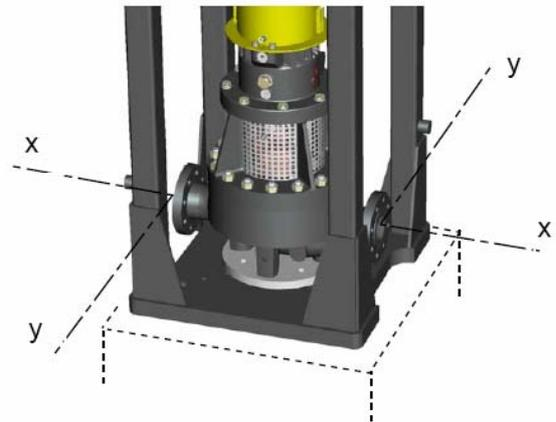

Figure 4
- The position of the suction and discharge nozzles in the y and z directions (see Figure 4) and